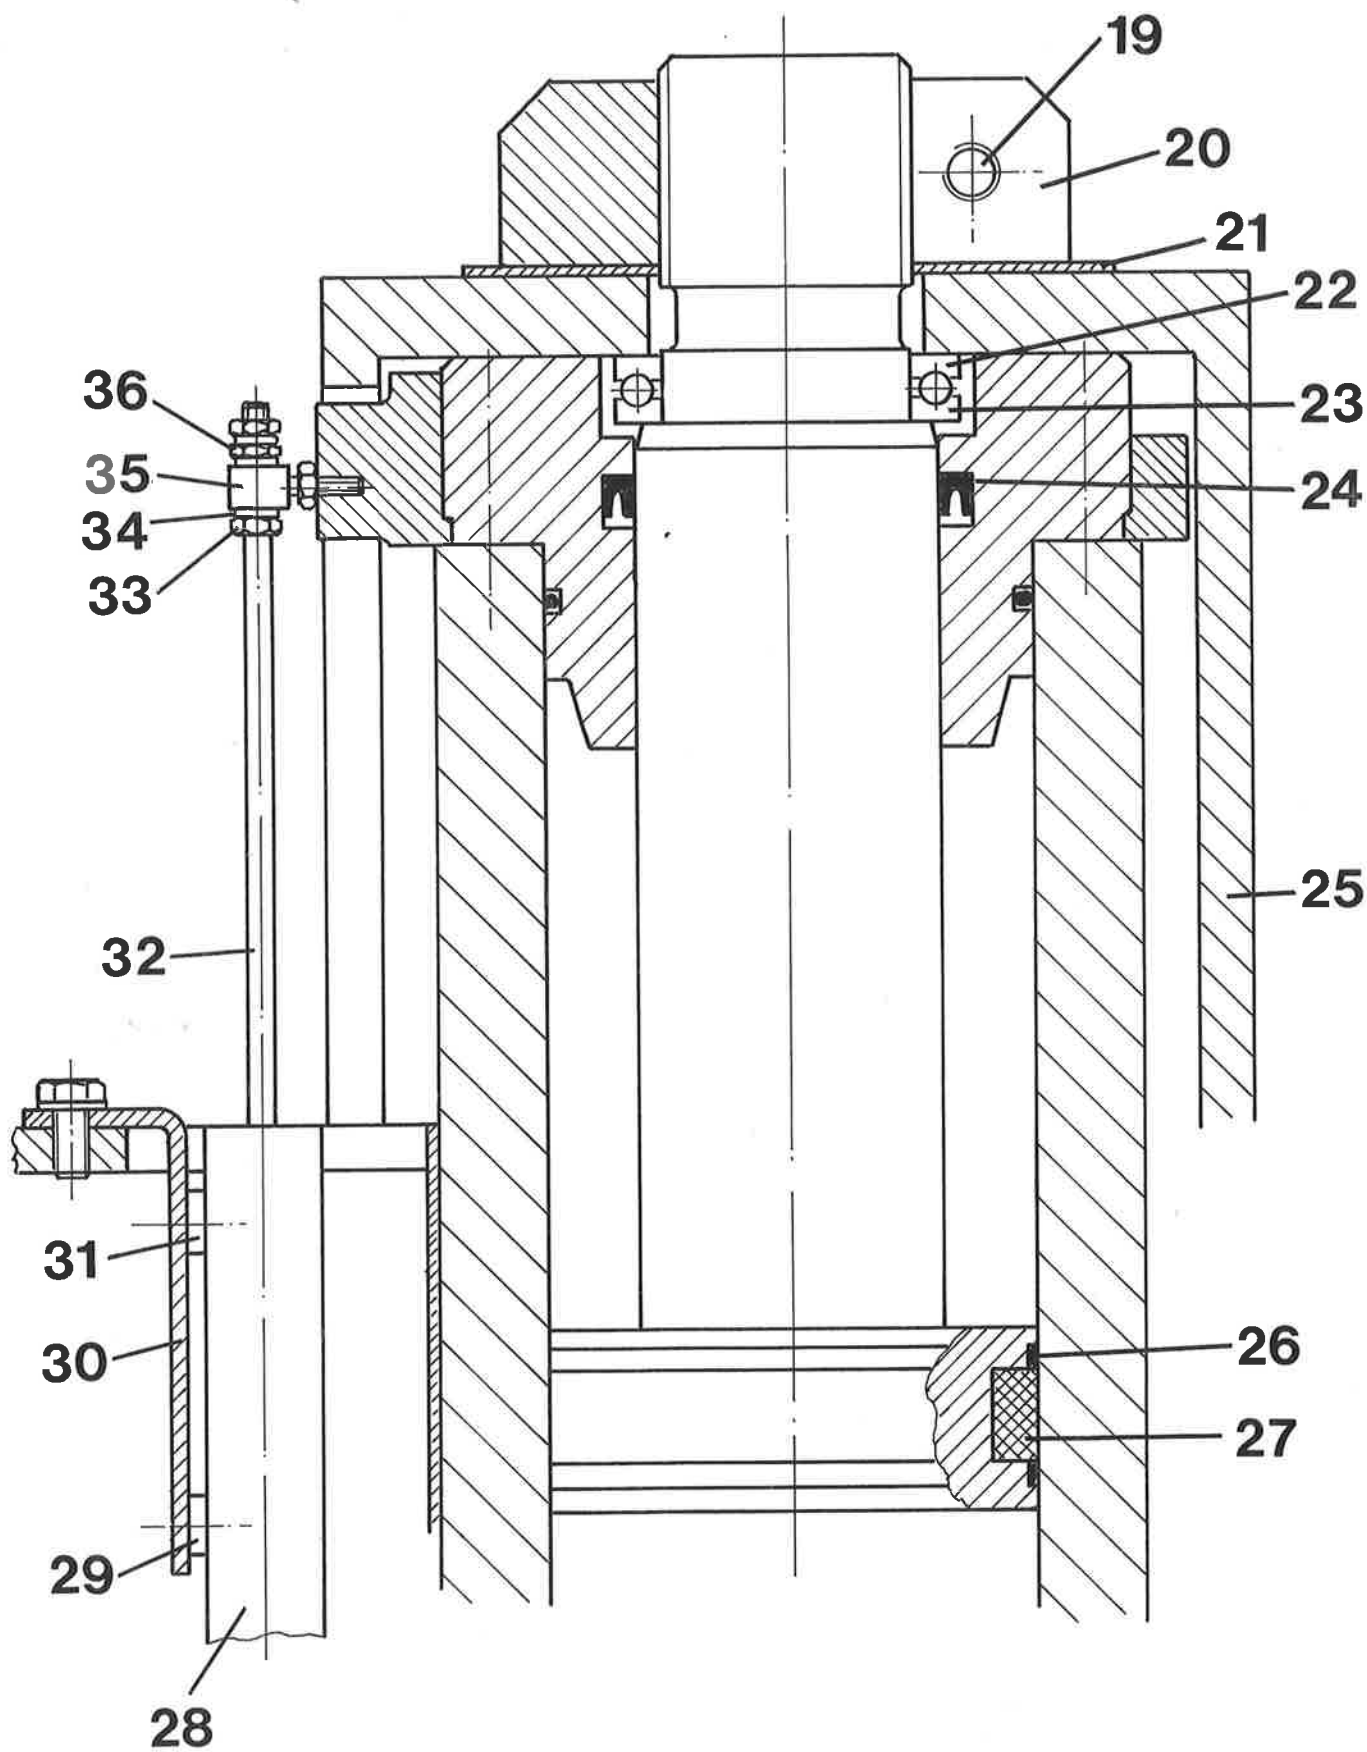

Fig. 4
- Fasten linpot body 28 with holders 29, 31 on supporting angle 30 in lower end position (oblong hole) and screw supporting angle, as shown in Fig. 4, up with the swing beam. Note that linpot body 28 and catch 35 are in true alignment. Linpot rod 32 must not be charged radially.